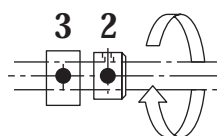
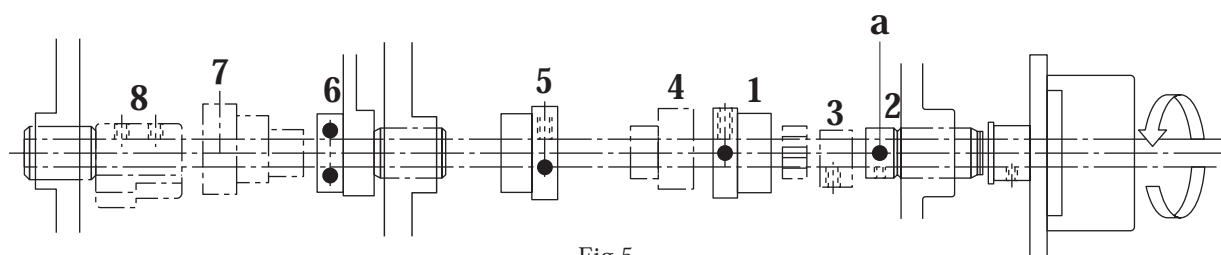

Fig.4
Fig.5
3. Check and set screw "a" of collar "2" at the same level of the screw of needle bar timing eccentric "1".(Fig.5) Turn the handwheel toward you and check if the screw on collar "2" is set at the same level of eccentric "3".(Fig.4)
7. Turn handwheel (90°) clockwise and check position of screw on collar "2" and eccentric screw "3".(Fig.4)
8. Turn handwheel (90°) counterclockwise and check position of screw "a" of collar "2" with eccentric "1-5-6".(Fig.5)